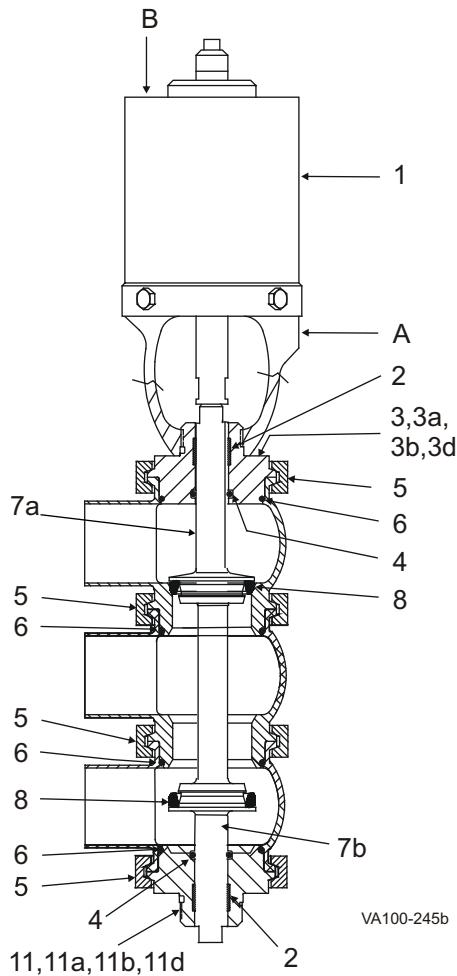

Figure 25: W65/W85 Divert Valve
1. Remove the lower body clamp (Figure 25, item 5) and the lower body.
2. Remove the body O-ring (item 6); replace as needed.
3. If necessary, remove the lower bearing carrier (item 11) from the lower body.
4. Remove the body O-ring (item 6) and stem O-ring (item 4) from the bearing carrier; replace as needed.
5. Inspect and replace the PTFE bearing (item 2) as needed.
6. Using 5/8-inch wrench flats on the stem, unscrew and remove the lower valve stem (Figure 25, item 7b).
8. Replace the lower seat ring (Figure 25, item 8) as needed. See "Seat Replacement" on page 37.
9. Remove the middle body clamp (item 5) and the middle body.
10. Remove the middle body O-ring (item 6); replace as needed.
12. Remove the upper body clamp (item 5) and the upper body from the adapter (item 3).
13. Using 5/8-inch wrench flats on the stem, unscrew and remove the upper valve stem (item 7a).
14. Replace the seat ring (item 8) as needed. See "Seat Replacement" on page 37.
15. Unscrew the adapter (item 3) from the yoke.
16. Remove the body O-ring (item 6) and stem O-ring (item 4) from the adapter; replace as needed.
17. Inspect and replace the PTFE bearing (item 2) as needed.
7. Using 5/8-inch wrench flats on the stem, unscrew and remove the lower valve stem (Figure 25, item 7b).
8. Replace the O-ring (Figure 25, item 9) in the counter bore of the lower stem as needed.
9. Replace the lower seat ring (Figure 25, item 8) as needed. See "Seat Replacement" on page 37.
13. Remove the middle body clamp (item 5) and the middle body.
14. Remove the middle body O-ring (item 6); replace as needed.
15. Remove the upper body clamp (item 5) and the upper body from the adapter (item 3).
16. Using 5/8-inch wrench flats on the stem, unscrew and remove the upper valve stem (item 7a).
17. Replace the seat ring (item 8) as needed. See "Seat Replacement" on page 37.
18. Unscrew the adapter (item 3) from the yoke.
19. Remove the body O-ring (item 6) and stem O-ring (item 4) from the adapter; replace as needed.
1. Screw the adapter (Figure 25, item 3) onto the yoke.
2. Install the upper body O-ring (item 6) onto the adapter.
3. Using 5/8-inch torque wrench flats on the stem, install the upper valve stem (item 7a). Torque to 380 in/lbs.
5. Assemble the upper body to the adapter; secure it with the upper body clamp (item 5).
6. Install the middle body O-ring (item 6) onto the upper body.